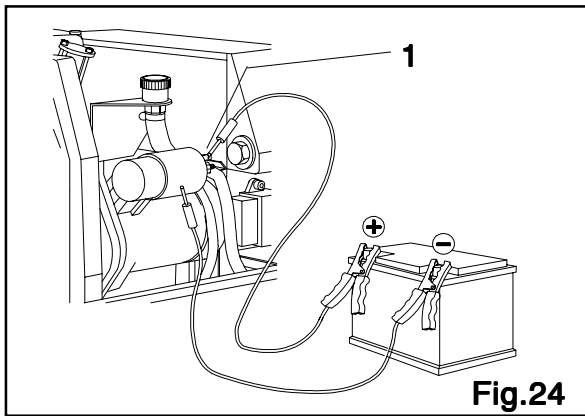

Fig.24
-Connect a 12V battery (+) pole with the screw clamp and (-) pole to the body of the starter (Fig.24).
-Connect the screw clamp and the adjacent fast-on and verify if the starter is running well (Fig.24 Ref.1).